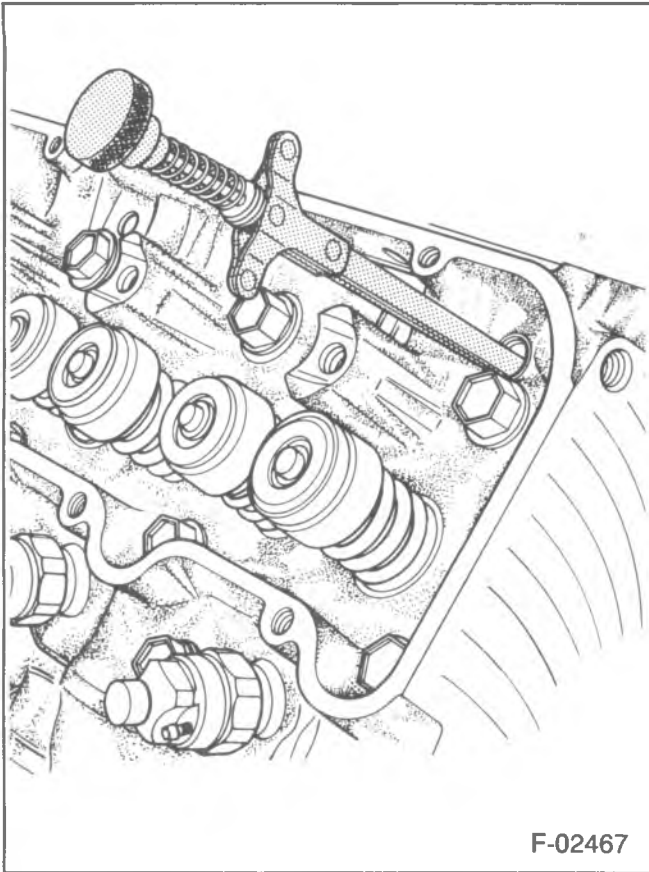

Figure 7—Removing the Hydraulic Lifter (R and V Models)
4. Clamps (32).
5. Guide plates (33). Use mechanical fingers, if necessary.
6. Hydraulic lifters, through the access hole in the cylinder head. On R and V Models, use J-29834 (figure 7) and a magnet. Place the lifters in an organizer rack. The lifters must be installed in the same bore from which they were removed.